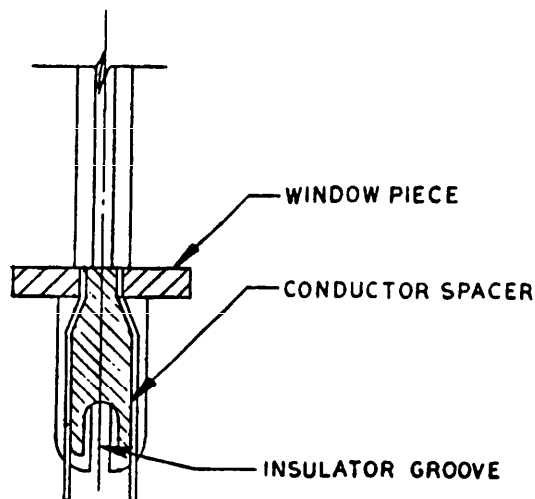

FIGURE 3- Conductor spacer installation.
- B. Separate conductors of one cable from those of the other and insert the conductor spacer into the window piece. See Figure 3 (Conductor Spacer Installation).